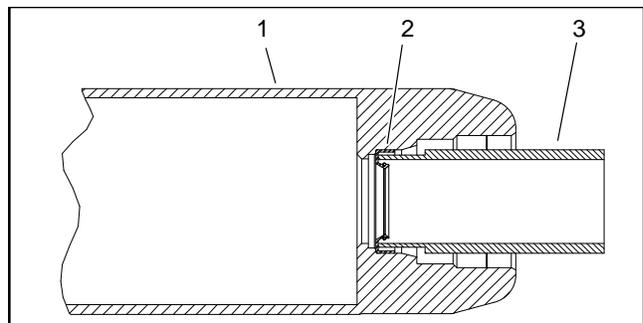

Figure 13
1. Install inner seals into roller tube making sure that seal lip (and garter spring) faces end of tube. Use inner seal tool (see Special Tools in this chapter) and soft face hammer to fully seat seals against roller shoulder (Fig. 13). Apply a small amount of grease around the lip of both inner seals after installation.